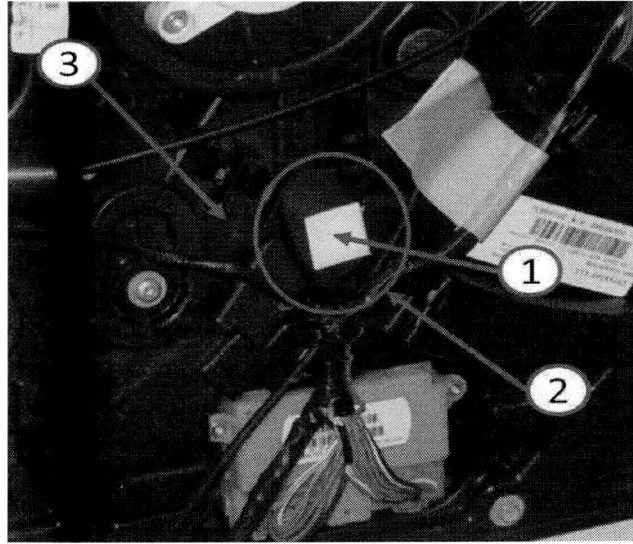

Fig. 5 Door Module Retainer Installation
6. Fully seat the white dual lock push clips (1) from repair kit into the 5/16" (8mm) hole in the door modules (Fig. 5).